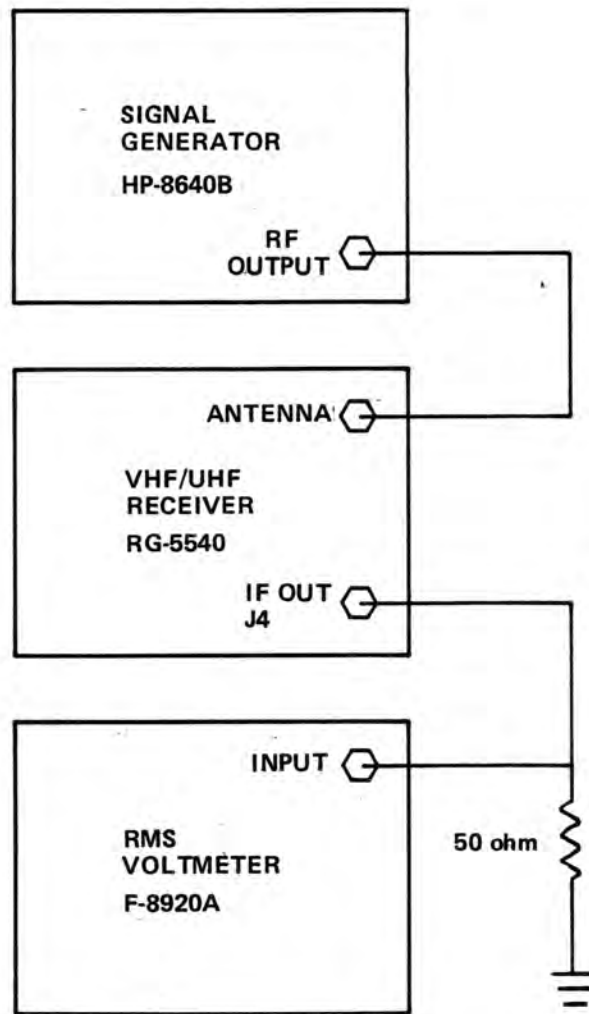

Figure 5-2. RF Gain Level Test
1. Connect the 50 ohm termination and RMS voltmeter to the IF OUT-J4 connector on the rear panel of the Receiver as shown in Figure 5-2.